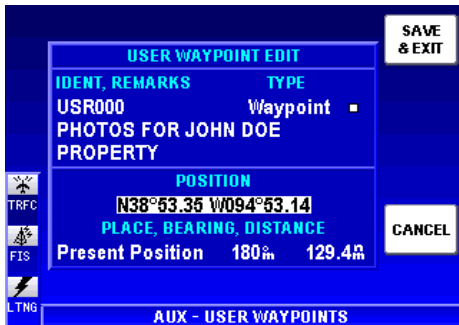

Figure 1-74
10. If a second line of remarks is desired, use the Joystick as discussed previously to place the cursor over the second line. Turn the Rotary Knob one increment. Press the **CLEAR TEXT** Softkey. Repeat steps 7 and 8 until all the desired characters are entered (see Figure 1-74).
12. A waypoint can be entered for any position. This can be done in two ways. One way is by entering the desired latitude and longitude of the waypoint. This is done by using the Joystick to place cursor over the latitude/longitude field as shown in Figure 1-74. Turn the Rotary Knob one increment to place the cursor on the first character. Continue turning the Rotary Knob to enter an **N** or **S**. Use the Joystick to move